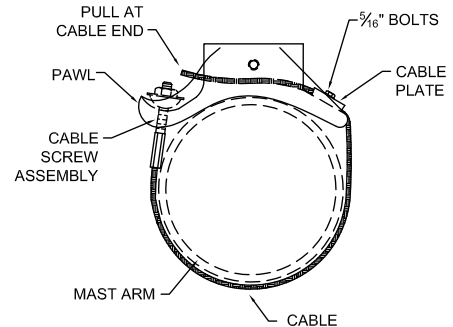

Figure 1
- 1). Place Astro-Mini-Brac on mast arm and insert Cable Screw Assembly into pawl area of clamp as shown in Figure 1. Leave 2 to 3 threads exposed at the end of the Clamp Screw as shown in Figure 2.